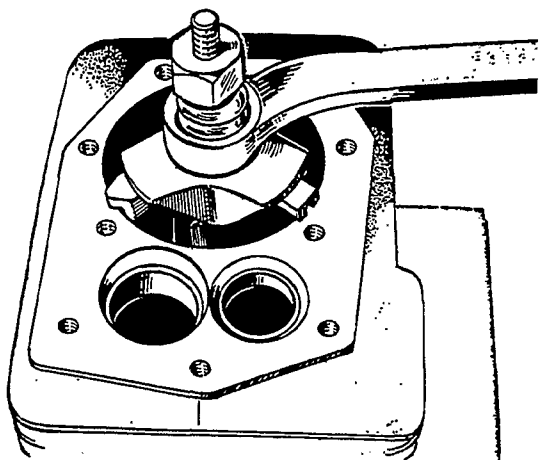

FIGURE 63. REMOVING RIDGE FROM CYLINDER
3. Remove carbon from top of cylinder bore and check for a ridge. Remove ridge (Figure 63) with a ridge reamer before attempting piston removal.